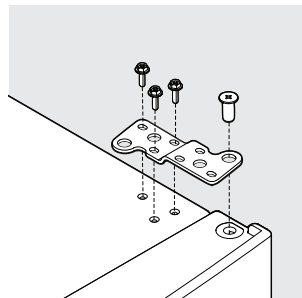

Figure 2
3. Remove the 3 screws from the top hinge using a Phillips screwdriver or 5/16" wrench. Set the hinge aside (see Figure 2).